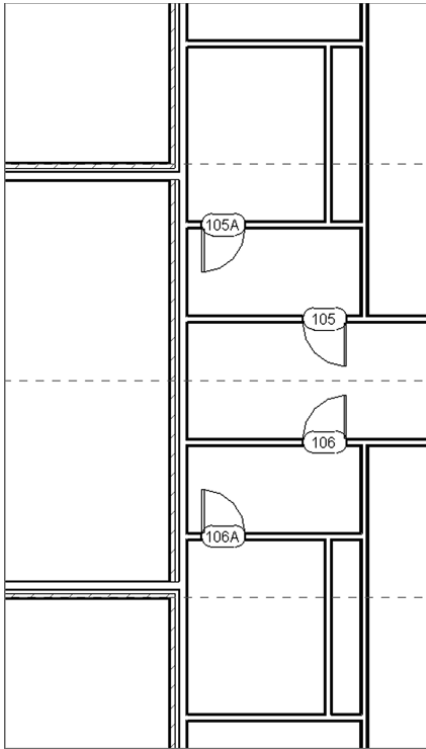

FIGURE 2.72: Adding lavatory doors. You'll have to renumber the tags.
7. Add lavatory doors as shown in Figure 2.72, keeping all offsets 1'-0" (300 mm) away from the walls. Use Single-Flush: 36" × 84" (M_Single-Flush 0915 × 2134).